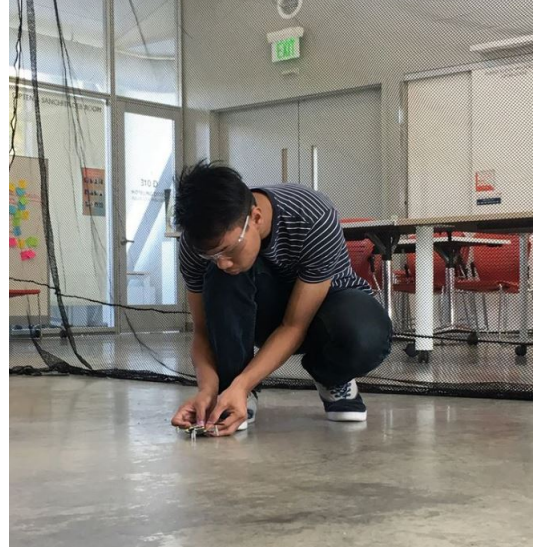

Fig. 5. Setting up the quadcopter for takeoff.
5) *Set-up*: Now that all the components have been implemented into the drone, we are ready to test it. The drone is placed inside the flying safety net and turned on. The drone was able to lift off the ground and hover for some time, but it kept flying slightly in one direction until it would crash against the walls of the net. We took some steps to debug the drone by analyzing the data obtained from the flight time of the drone. *Figure 5* shows a team member setting up the drone inside the safety zone.